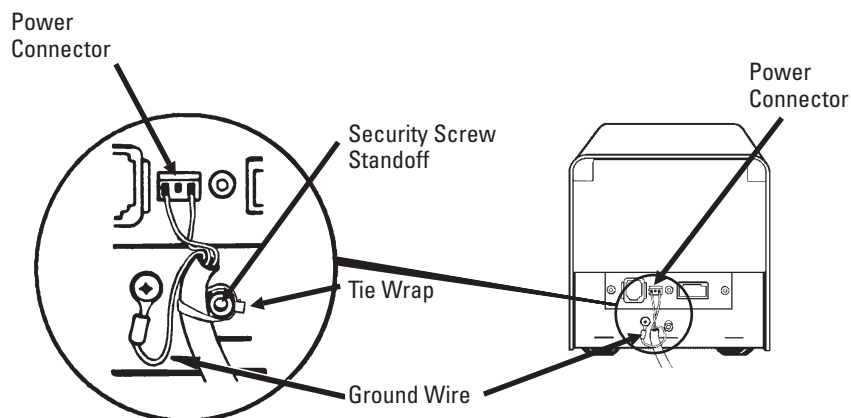

Figure 3-6:
- 2 Holding the small end of the Auxiliary Card Reader power supply so that the raised tabs face up, plug the cable into the Power Connector (Figure 3-6).
- 3 Use the small Phillips screw on the base of the Auxiliary Card Reader to secure the grounding wire (Figure 3-6).